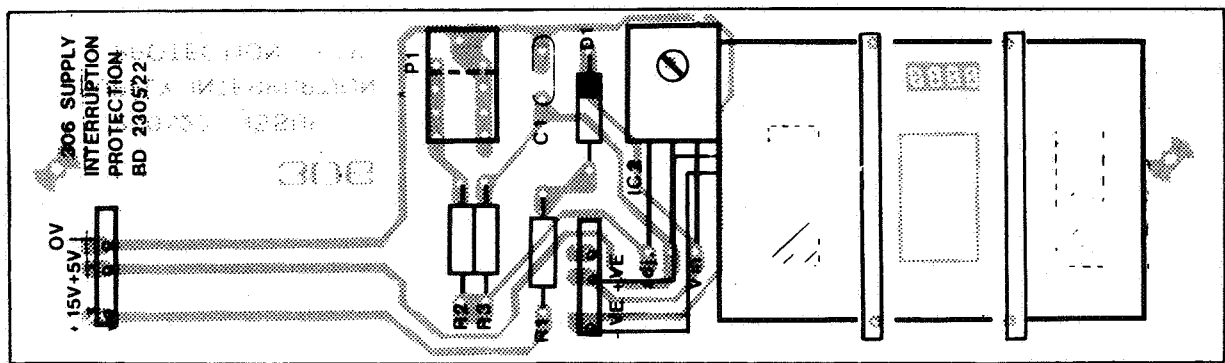

Figure 18.2 SUPPLY INTERRUPT PROTECTION, BOARD ASSEMBLY
- iii) Watchdog monostable (see Figure 18.2)